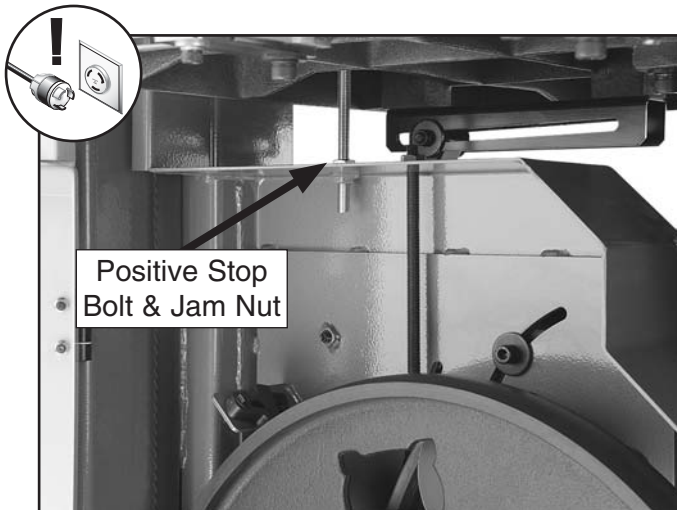

Figure 15. Positive stop bolt and jam nut.
- Open both wheel covers, use a 17mm wrench to loosen the positive stop jam nut shown in **Figure 15**, then lower the positive stop bolt so that it will not interfere with the table tilt in the following steps.